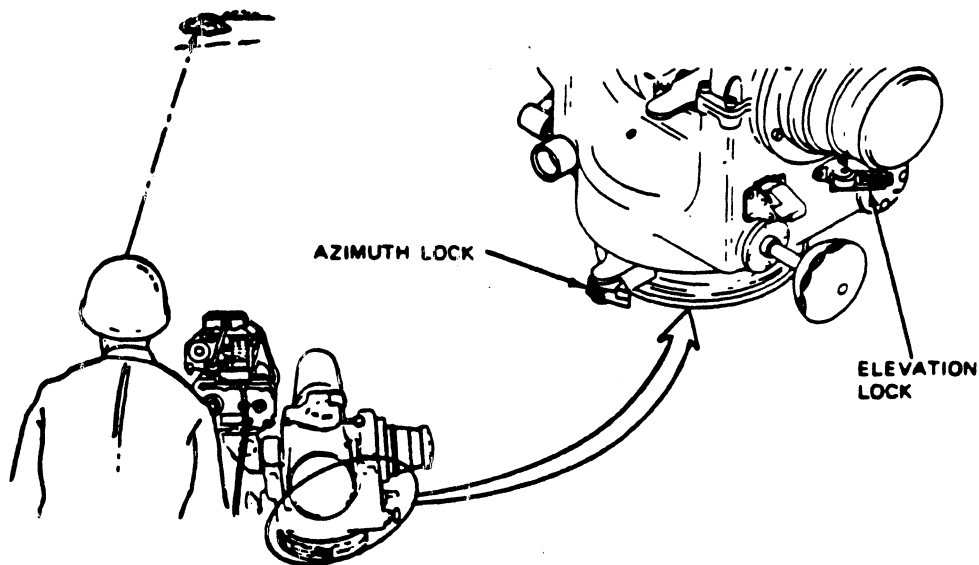

Fig 4-26. Selecting the target/location of azimuth and elevation locks.
Step 1. Visually select the target without using the day sight tracker or night sight, and place the elevation and azimuth lock in the UNLOCKED position (fig 4-26).